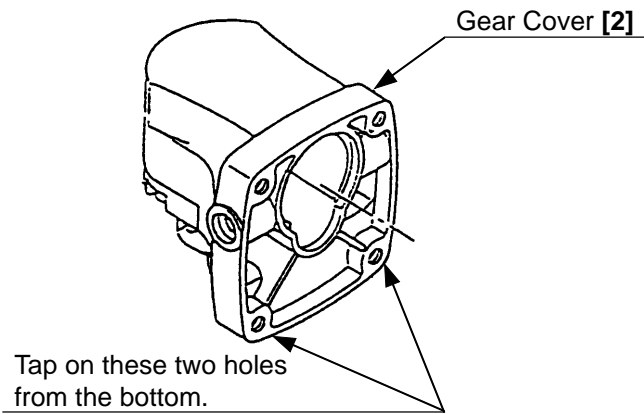

Fig. 2
- Remove the four Seal Lock Hex. Socket Hd. Bolts M3 x 12 **[22]** and tap the Gear Cover **[2]** strongly with a wooden hammer to remove the Chuck Cover **[21]**, Spindle **[19]** and others together (See Fig. 2). At this time, be sure to tap on the two screw holes, not the center of the Gear Cover **[2]**. Otherwise, the Gear Cover **[2]** may be deformed.